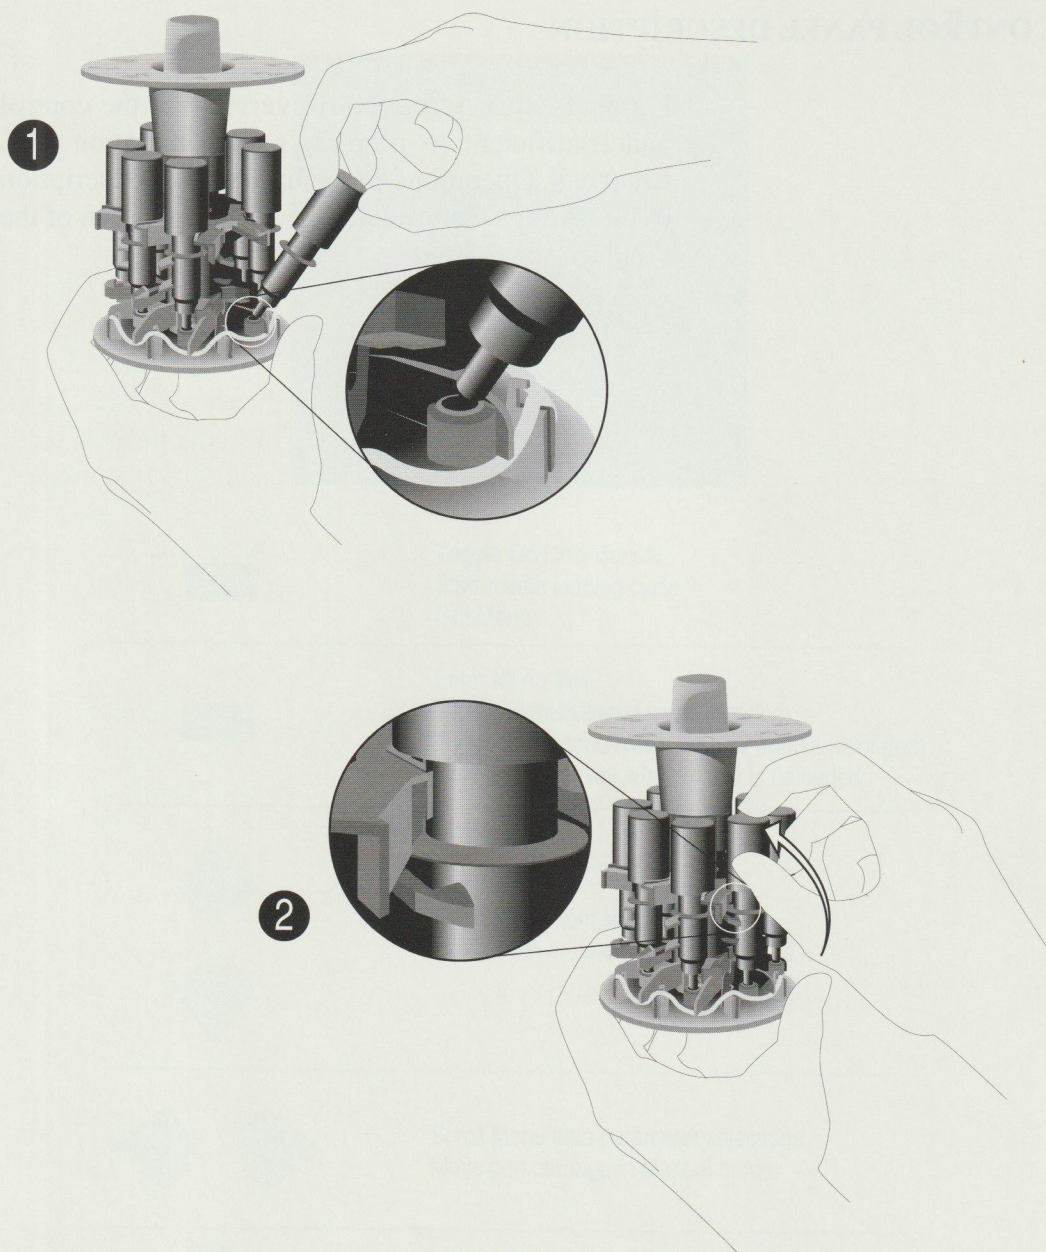

Figure 1-4. Loading Pens
3. Load the pen into the turret as shown in Figure 1-4. If liquid ball or fiber tip pens are used, change the turret pen caps to blue or red caps. Refer to the procedure at the end of Chapter 5 for changing turret pen caps.